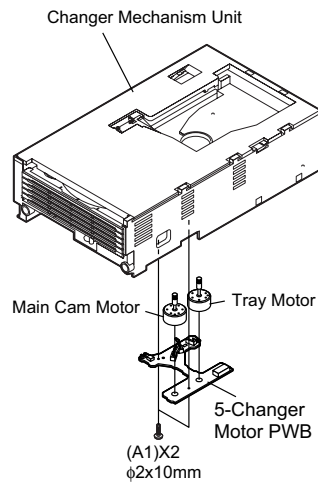

Figure 1
3.2. How to Remove the tray motor/main cam motor/5-Changer Motor PWB (See Fig. 1)